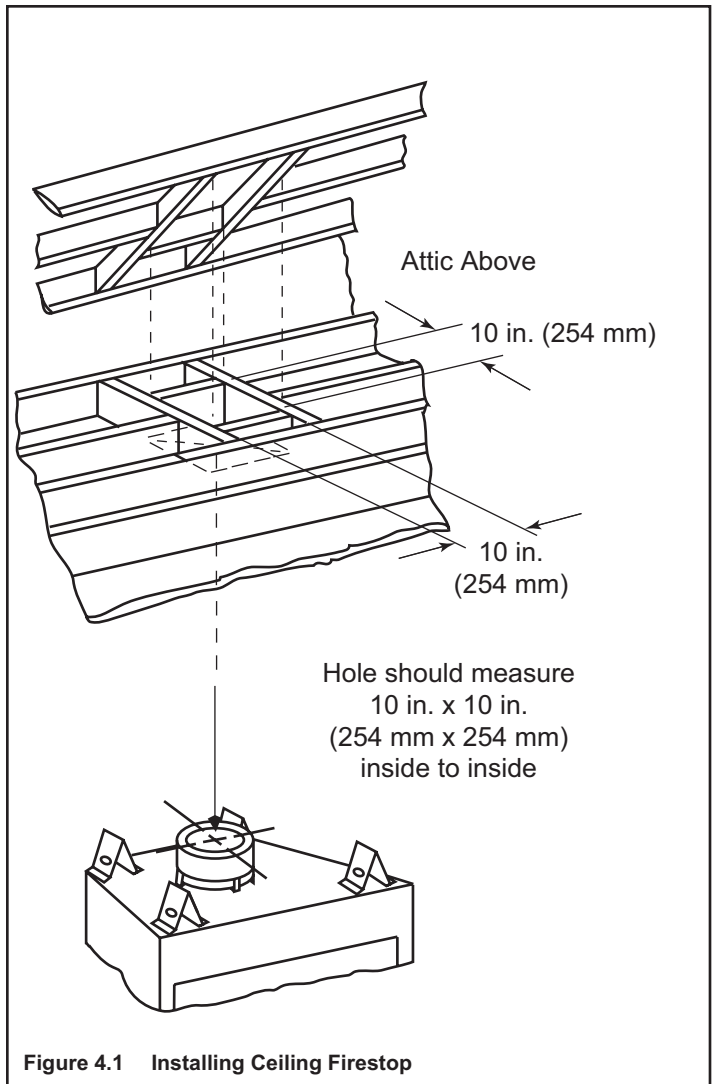

Figure 4.1 Installing Ceiling Firestop
- Frame an opening 10 in. by 10 in. whenever the vent system penetrates a ceiling/floor (see Figure 4.1).